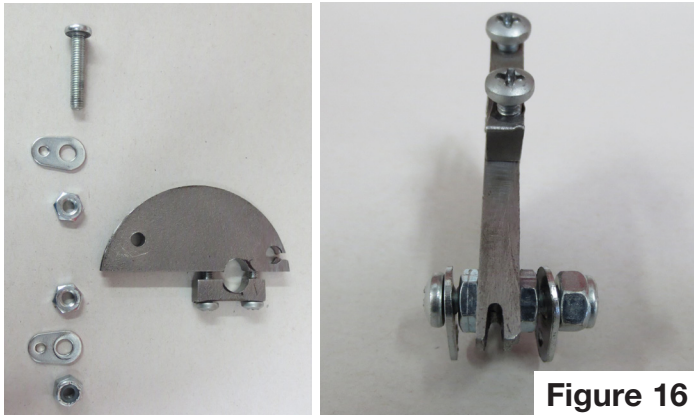

Figure 15
- 15) Find the provided throttle cable. Remove the cable from the housing. Lube the cable with grease. From inside the car, run the cable up through the pedal and firewall just as the stock cable was routed. Screw the cable housing into the throttle/choke bracket as pictured. Install the cable into the housing. Figure 15.